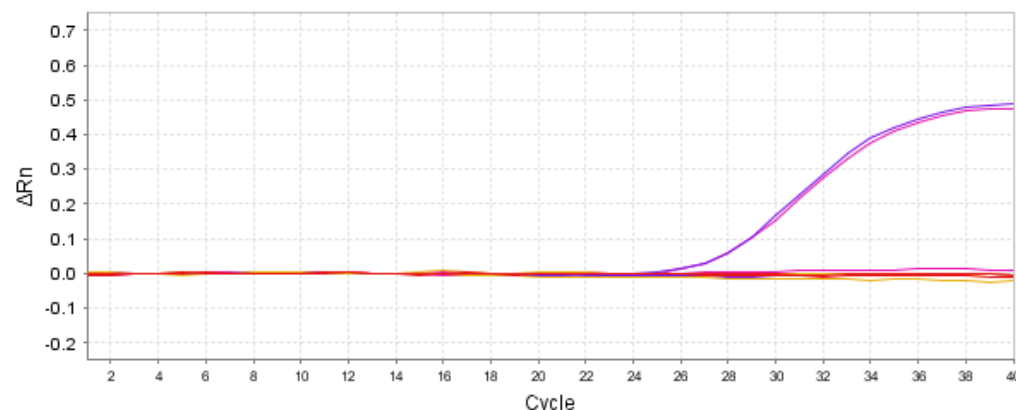

Figure 15 Example Amplification Plot for negative control and blocked IPC
- View the amplification plots for the negative controls (see Figure 15 and “Optimize display of negative controls in the Amplification Plot” on page 34).